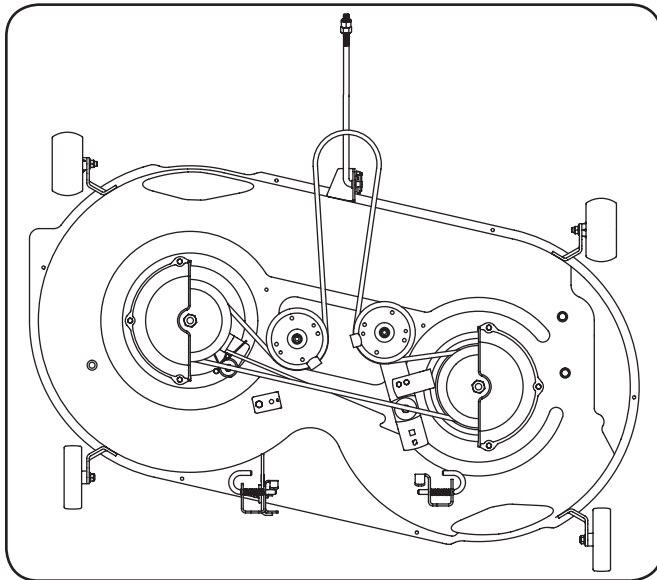

Figure 7-8
5. To place the new belt begin by routing the belt around the two outer spindle pulleys as shown in Fig. 7-8.
6. Then route the belt around the two deck idler pulleys as show in Fig. 7-8.